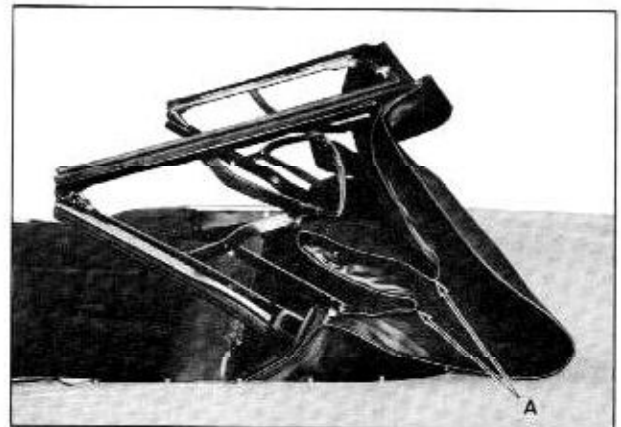

Fig. 17-104 Padding Pulled From Between Arms
5. On right and left side of body, pull top material and padding "A" from between operating arms of top. (Fig. 17-104)